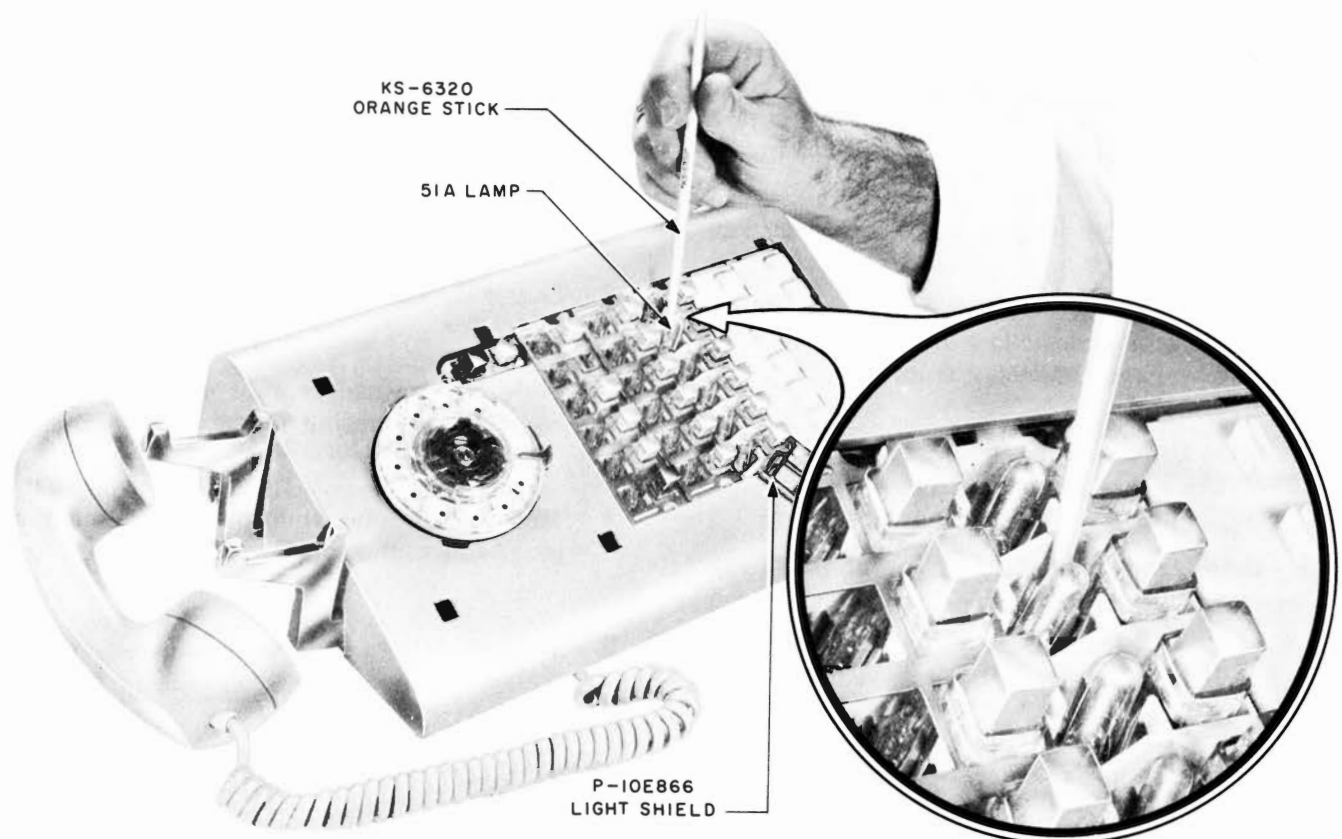

Fig. 6 — 639-Type Telephone Set Showing Removal of 51A Lamp
2. Insert tip of orange stick beneath the raised lamp capsule and lift lamp from its socket. (See Fig. 6.)